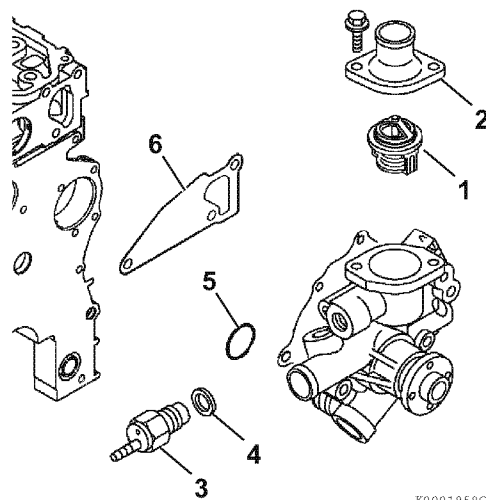

Figure 8-9
1. Reinstall the thermostat (1, **Figure 8-9**).
2. Reinstall the thermostat cover (2, **Figure 8-9**). Tighten the thermostat cover bolts.
3. Reinstall the temperature switch (3, **Figure 8-9**) and a new gasket (4, **Figure 8-9**).
4. Position the engine coolant pump on the engine and install a new gasket (6, **Figure 8-9**). Use a new special O-ring (5, **Figure 8-9**) on assembly between the engine coolant pump and the joint.